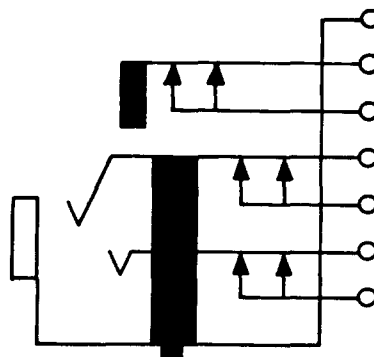

Fig. 5—580-Type Jack
2.05 580A, C, and E: These are single-mounted jacks (Fig. 5).